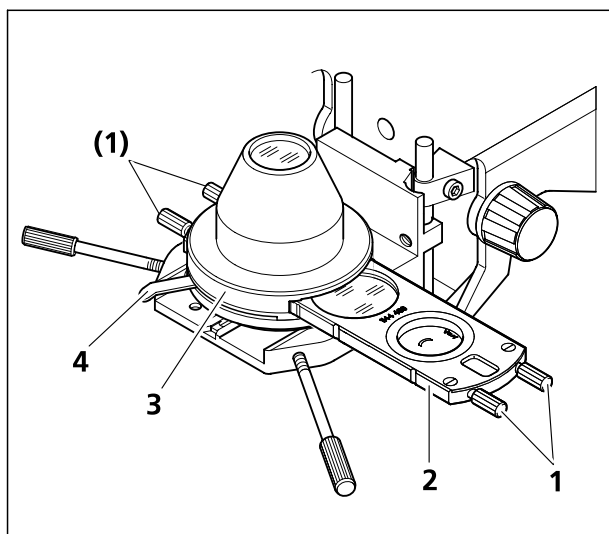

Fig. 3-22 Condenser 0.9/1.25 H and slider with VAREL segment stop
(2) Axioskop 40 and Axioskop 40 FL configurations
(3) Setting transmitted-light phase contrast on the Axioskop 40 and Axioskop 40 FL
- If congruence is not perfect (3-21/A), use the two SW 1.5 screwdrivers (3-20/1 and 4) on the two centering screws (3-20/2 and 3) to recenter the bright phase stop until complete congruence with the dark phase ring is achieved (3-21/B). With the 0.9/1.25 H condenser, use the knurled screws on the slider for your centering procedure (see Fig. 3-22/1).